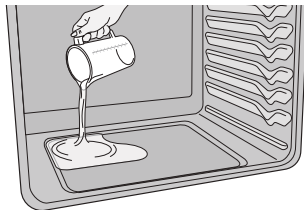

Figure 28: Add 1 cup of tap water
3. Pour 1 cup of tap water onto the oven bottom. (Figure 28) Close oven door.